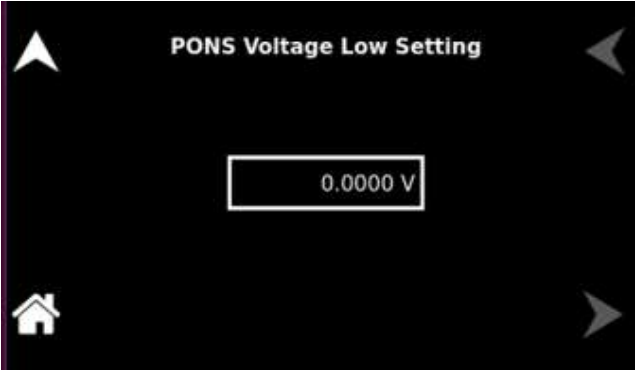

Figure 9-132. Voltage Low Settings
**PONS Voltage Low Limit** Users can set a voltage low limit value, which functions as a trip limit (CC and CC/CP), or it regulates (CC/CV) the output upon reaching the PONS Voltage Low Limit. Refer to Figure 9-132.